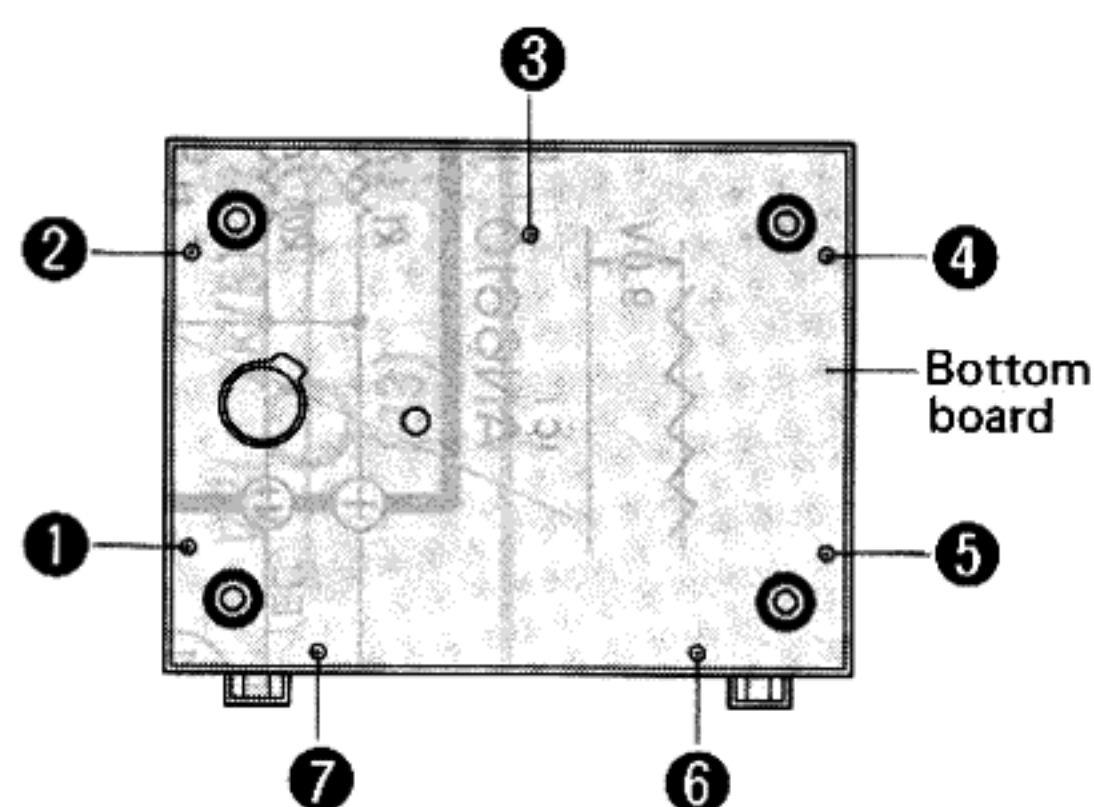

Fig. 1
4. Remove the bottom board setscrews ① ~ ⑦. Then, the bottom board can be remove. (See Fig. 1)